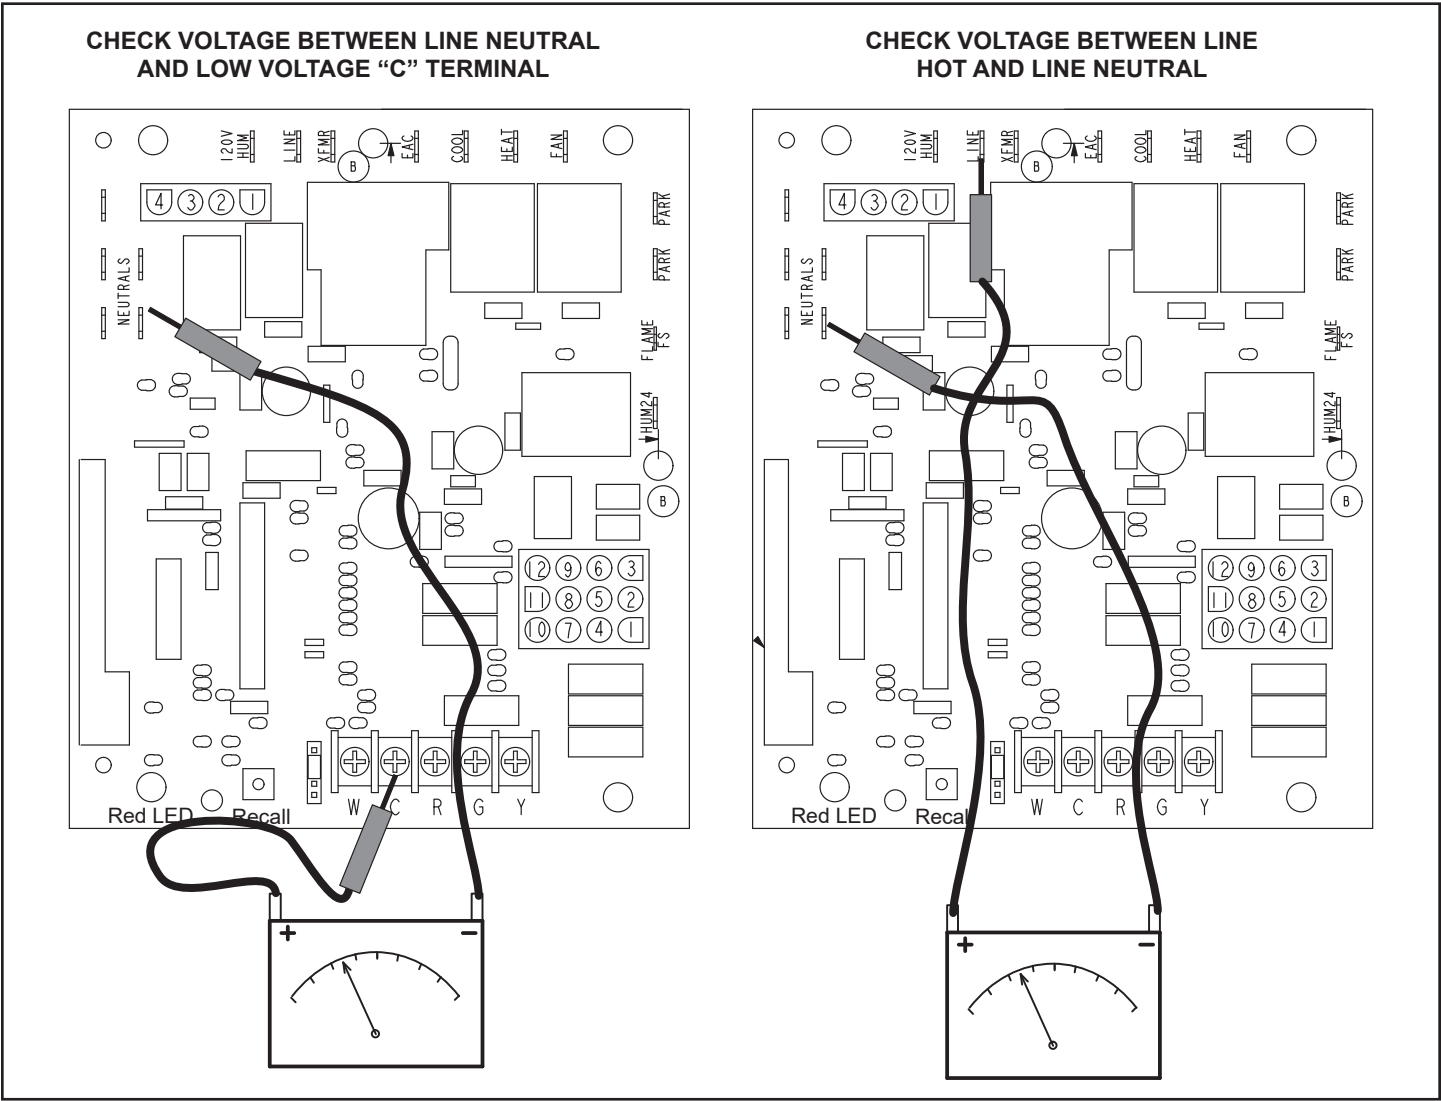

Figure 54.
1. Measure the AC voltage between Line Neutral (spade terminals) and “C” terminal (low voltage terminal block) on the integrated control. See Figure 54. A wide variation in the voltage between Line Neutral and “C”
2. In addition, measure the AC voltage from Line Hot to Line Neutral (spade terminals) on the integrated control. See Figure 54. This voltage should be in the range of 97 to 132 VAC.